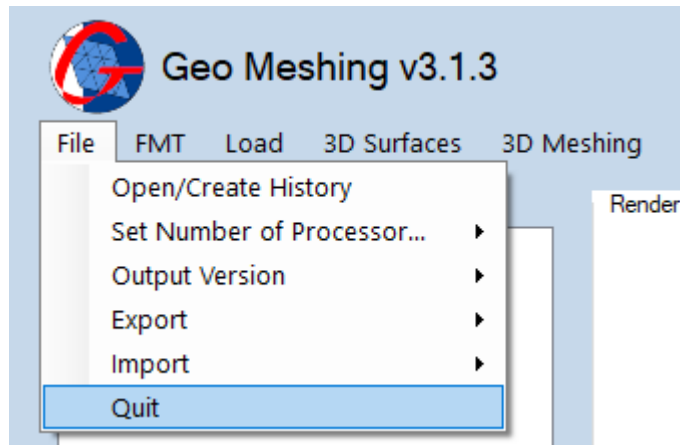

Figure 17: File Menu – Quit.
- **File Menu, Quit:** Exits from *Geo Meshing v3.1* (shown in Figure 17).